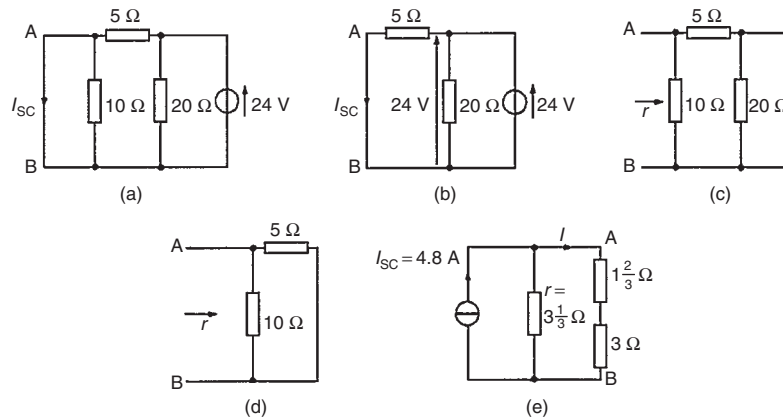

Figure 13.61
- (i) The branch containing the 3Ω resistance is short-circuited as shown in Fig. 13.61(a)
- (ii) From the equivalent circuit shown in Fig. 13.61(b),
- (iii) If the 24V source of e.m.f. is removed the resistance 'looking-in' at a break made between A and B is obtained from Fig. 13.61(c) and its equivalent circuit shown in Fig. 13.61(d) and is given by:
- (iv) From the Norton equivalent network shown in Fig. 13.61(e) the current in the 3Ω resistance is given by: